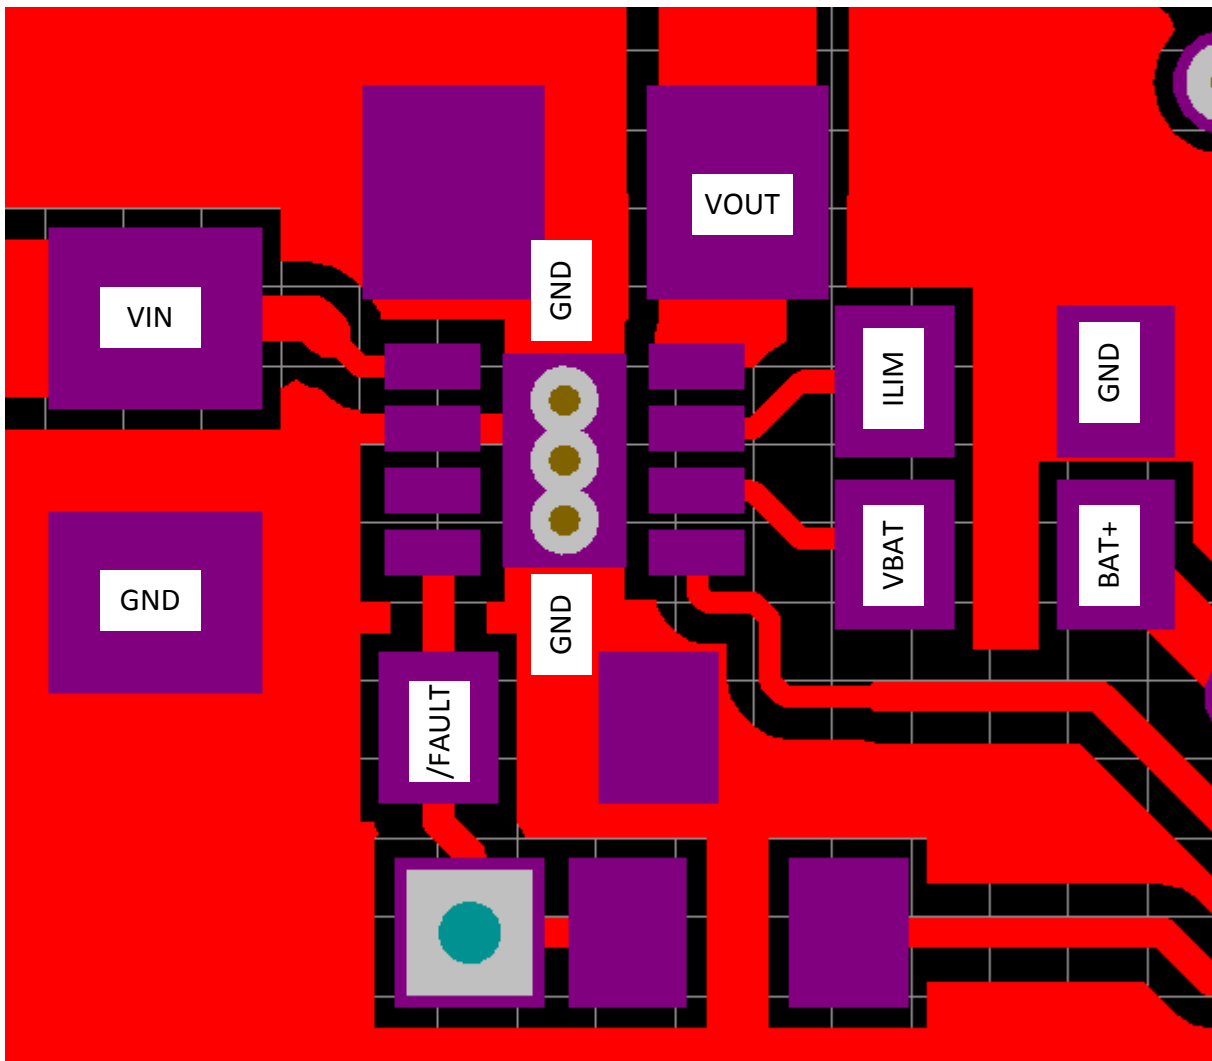

Figure 24. Layout Example Recommendation
- This device is a protection device, and is meant to protect down-stream circuitry from hazardous voltages. Potentially, high voltages may be applied to this IC. It has to be ensured that the edge-to-edge clearances of PCB traces satisfy the design rules for high voltages. See Figure 24.